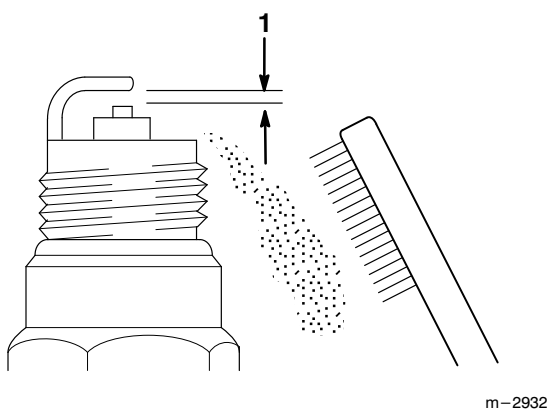

Figure 23
5. Clean the electrodes with a stiff brush (Fig. 23).
6. Adjust the electrode air gap to .024–.028 in. (0.6–0.7mm) (Fig. 23).